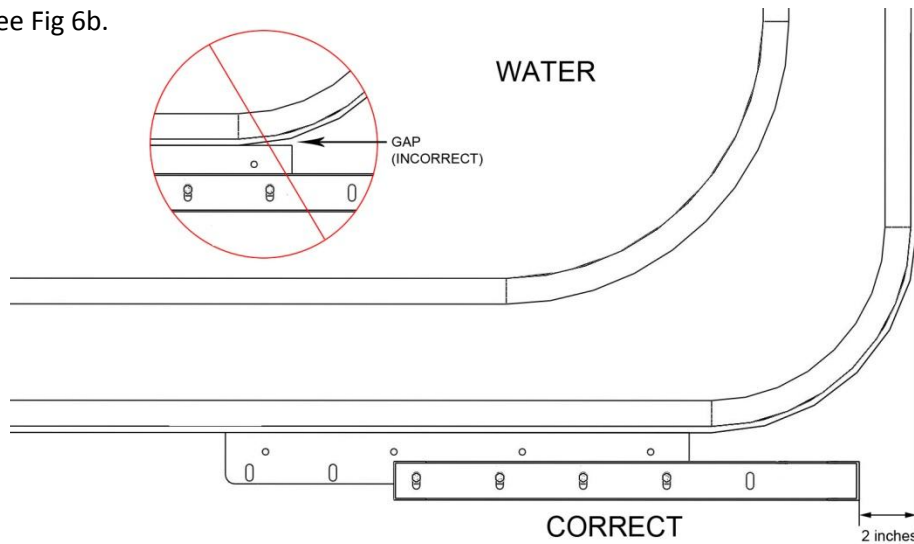

Figure 6b
b. Place the bracket assembly against the side of the spa. The Side Mount Bracket (cvAA) must be flush with the side of the spa. **Do Not** allow the Side Mount Bracket (cvAA) to hang over the rounded edge. See Fig 6b.